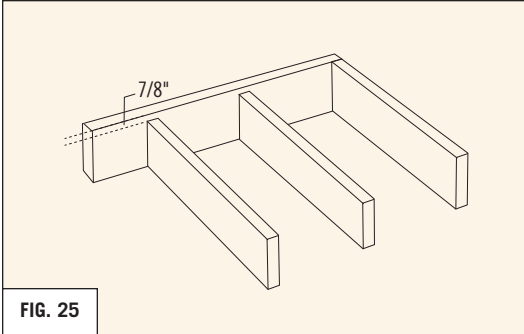

FIG. 25
- Raise the rim joist and outer joists by 7/8" to support the bullnose. (REFER TO FIG. 25)